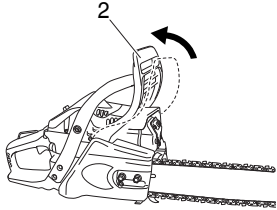

Fig. 2
1. Pull the front hand guard (2) toward the front handle to check that the chain brake is disengaged. (Fig. 2)
Chain brake operation (Fig. 2, 11)